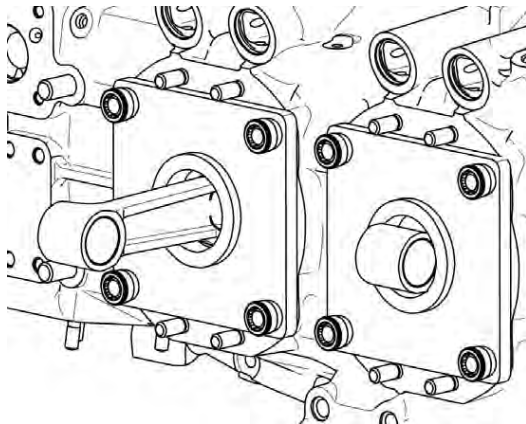

Figure 9
(1) Install torque hold-down plates (ST-222) as shown in Figure 9.